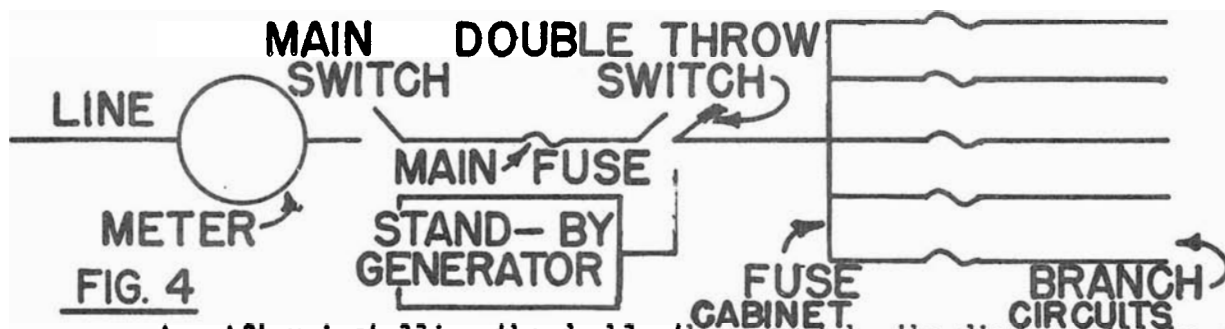

FIG. 4
- A. After installing the double-throw switch, the diagram will be as shown in Fig. 4. You will note that when the switch is thrown up, (the normal position when there is no emergency), the load is connected to the normal power line. All the amperes that flow through the main switch must also flow through the newly installed double-throw switch. Therefore, the double-throw switch MUST have a rating